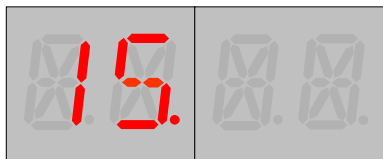

Figure 8a: Navigate to desired SV.
- 1. Navigate to the desired SV with UP and DOWN. See **Figure 8a**.
SV 15, our target, is displayed. Compare to **Figure 8a**.